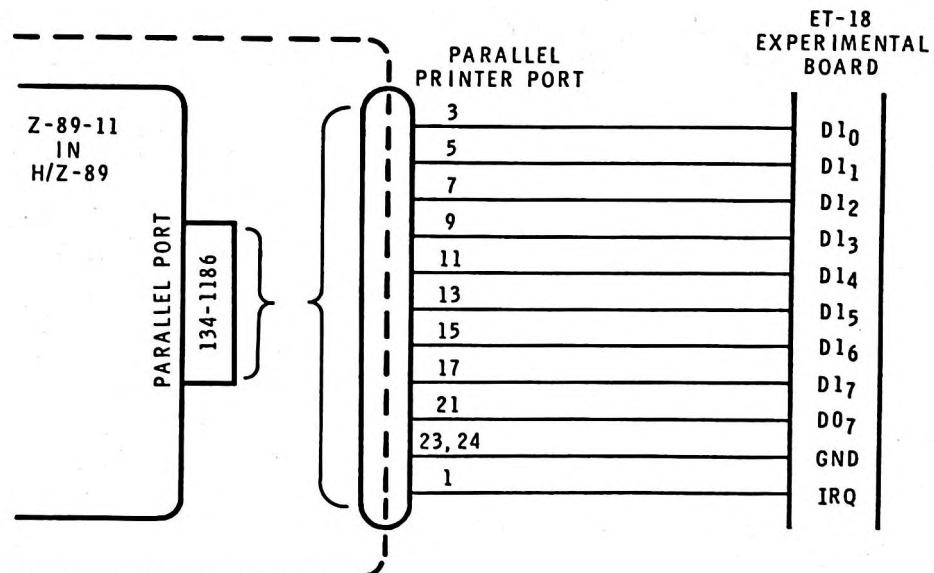

Figure 8
1. Connect the cable from the computer Parallel port to the Robot's experimental board as shown in Figure 8.